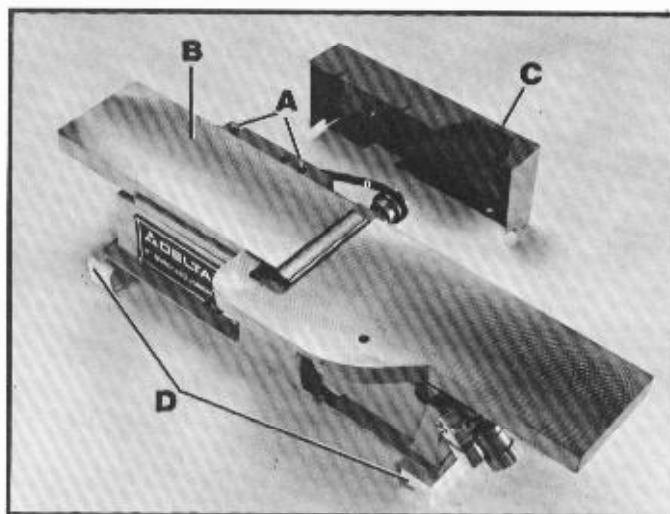
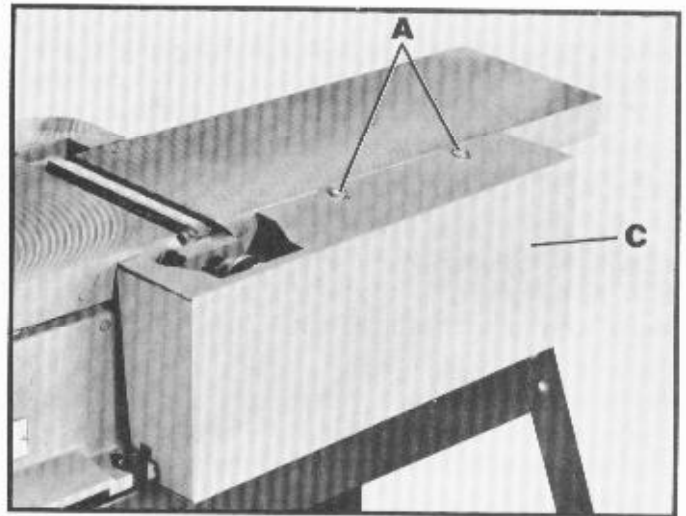

Fig. 2
Fig. 6
2. **IMPORTANT:** When removing the jointer from the shipping container, do not place the jointer on a flat surface. Support the jointer at both ends with 2" x 4" lumber or similar material (D), as shown in Fig. 2. This will prevent any damage to the motor and/or bracket assembly, which is located at the base of the jointer.
3. Loosen the two screws (A) Fig. 2, located at the rear of the outfeed table (B), and remove the belt and pulley guard (C), from the machine.
Replace the belt and pulley guard (C) Fig. 6, which was removed earlier in Fig. 2, and retighten the two holding screws (A).